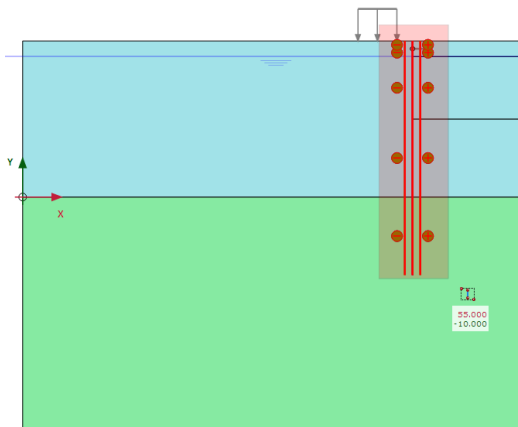

Figure 2.9 Multi-selection of plates in the drawing area
- In the drawing area define a rectangle including all the plate elements (Figure 2.9).